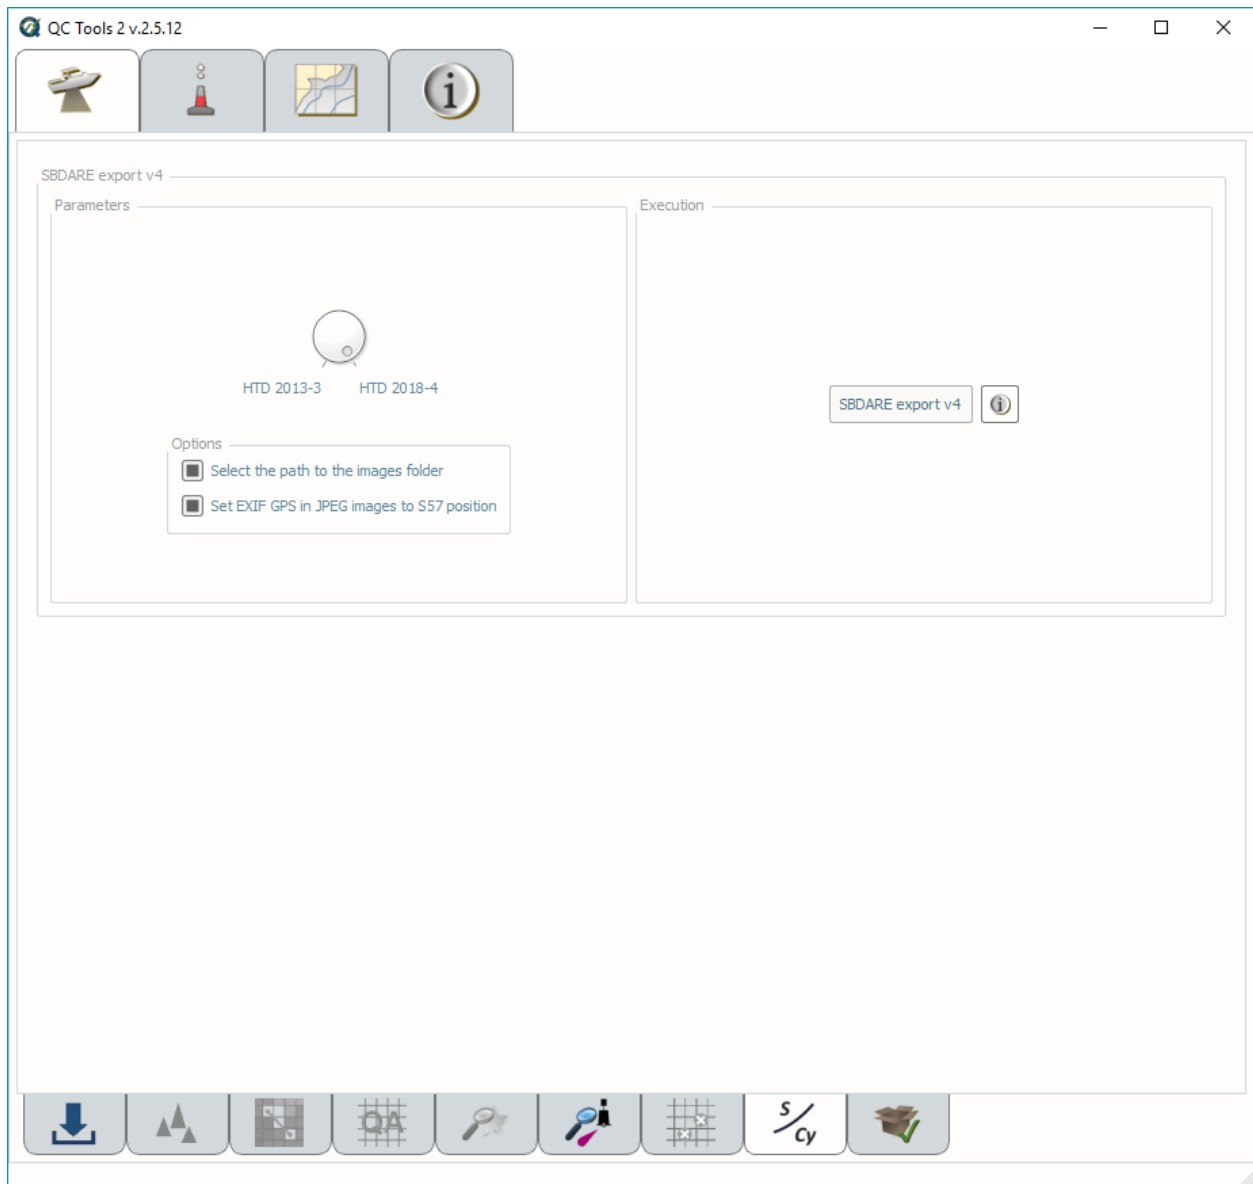

Fig. 2.29: SBDARE export's interface.
- Click **SBDARE export v4** (Fig. 2.29).